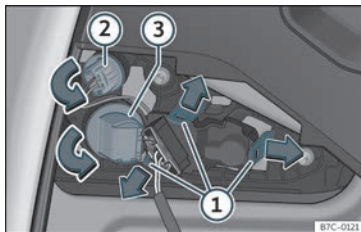

Fig. 52 Remove the bulb holder.
- Unlock the securing tabs from the bulb holder»» Fig. 52 ① or turn the bulb holder to the left ② and ③.